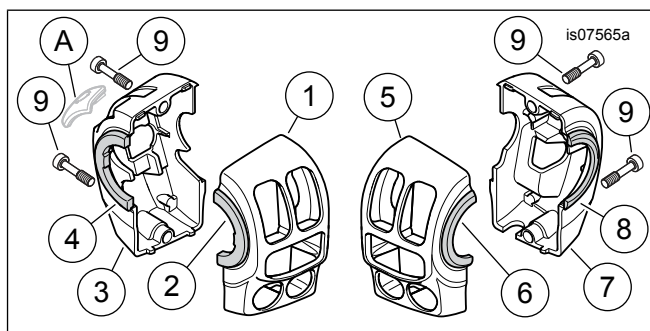

Figure 2. Service Parts, Chrome Switch Housing Kit
See Figure 2 and Table 1.
- c. **For clutch side only:** Gently pry up trigger finger switch cap (A) with a small, flat blade screwdriver. Slide cap left to remove. See Figure 2.
- d. **Loosen** switch housing captive screws (9). Remove switch housing.